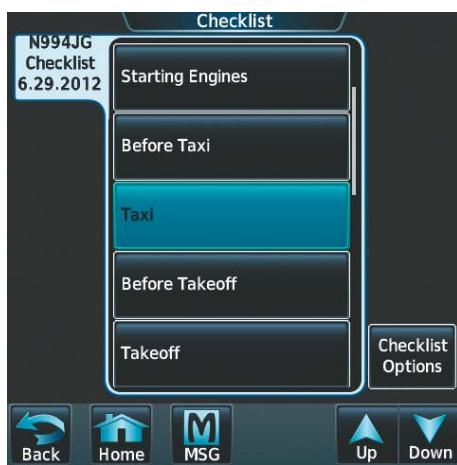

Figure 8-123 Checklist Screen
- 2) Touch the desired checklist to reset. **Taxi** is selected in Figure 8-123.
- 2) Touch the **Checklist Options** Button shown in Figure 8-123.